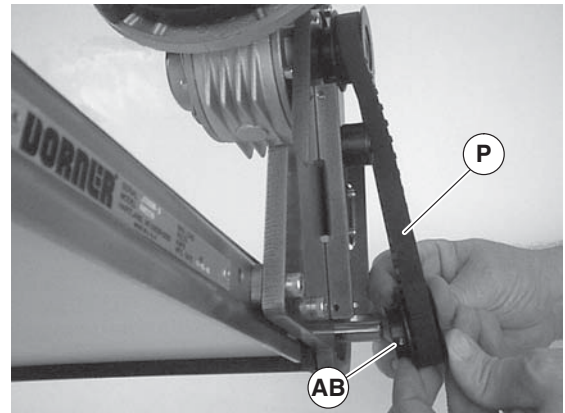

Figure 20
3. Remove timing belt (Figure 20, item P).
If timing belt does not slide over pulley flange, loosen driven pulley set screws (Figure 20, item AB) and remove pulley with belt (P). For re-installation, see steps 8 and 9 on page 11.